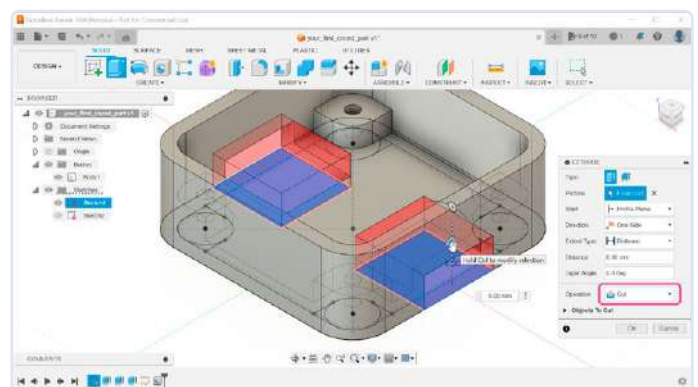

Figure 18: Extruding the two holes.
18) Rotate the 3D view to see the bottom of our enclosure. Select the **Extrude** (Figure 18) tool and then select the newly created rectangles. Enter a distance of 6 mm to match the height of the supports. **Operation** should be automatically changed to **Cut**.